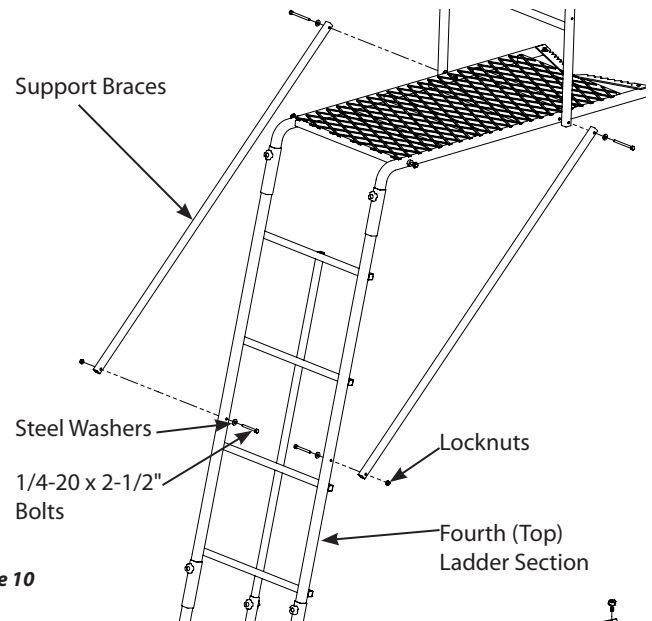

Figure 10
11. Slide the top ladder section (14167) onto the platform weldment by sliding ladder pockets over the curved ends of platform. Attach the support braces (14113) to the top ladder section using (2) provided 1/4-20 x 2-1/2" bolts, locknuts and steel washers. **SEE FIGURE 10. You must now tighten all nut and bolt assemblies. Be sure not to over tighten or crush tubing when tightening!**